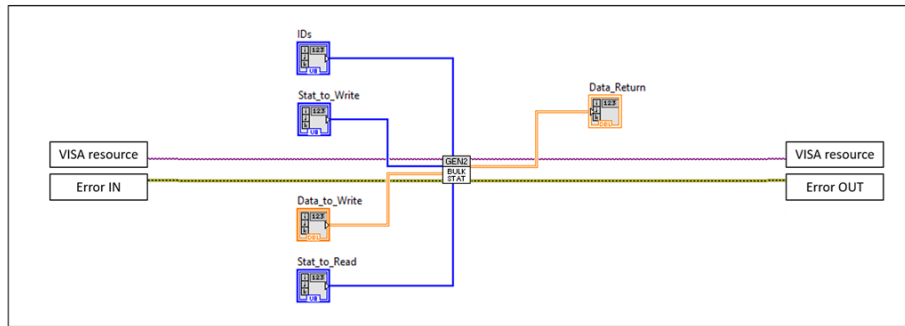

Figure 19: Bulk read/write with status registers.
- 3) **Bulk Communication** Writing to/reading from multiple **status** registers of one or more BEAR actuators can be done with the *Bulk.Stat* subVI conventionally all at once. Use this function as shown in figure 19.